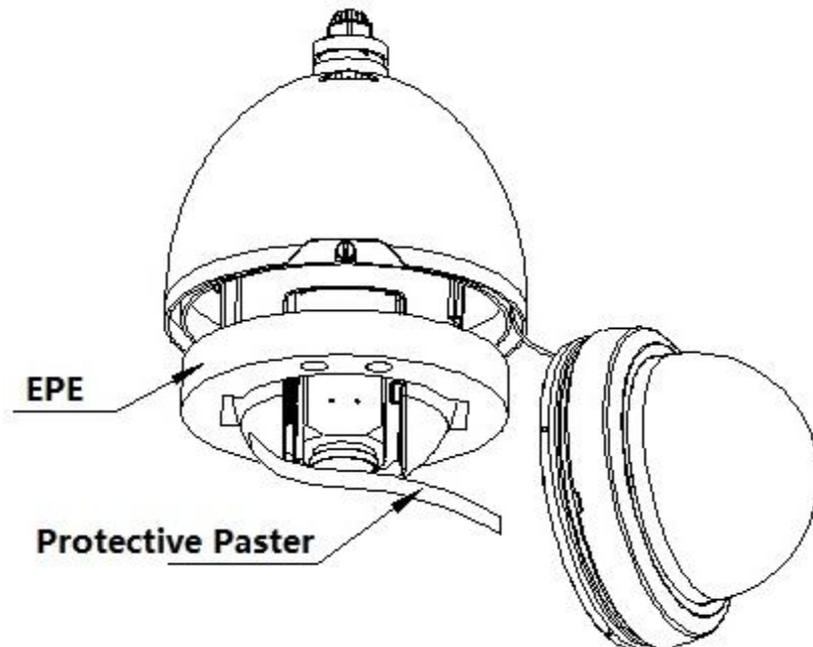

Figure 1-9
Step 2 Open the transparent cover and take out the EPE around the speed dome driver. Please remove the protective paster from the driver and take off the camera lens cap. See Figure 1-9.